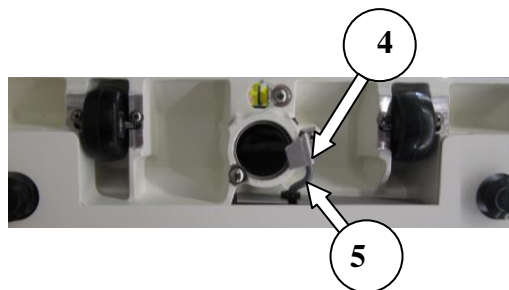

Figure 2: Cable Clamp and Display Cable Connector
STEP 6: (Figure 2) Lay the system on its side and remove the Cable Clamp (4) from the Base Assembly. Attach the Display Cable Connector (5) to its mate from the Base Assembly.
STEP 7: (Figure 2) **IMPORTANT:** Reinstall the Cable Clamp! Slide the cable back up into the Mast. Set the display cable into the groove under the Cable Clamp and reinstall the Cable Clamp, leaving just enough slack to alleviate any tension on the Cable exiting the Platform. Securely tighten the Cable Clamp screw. Excess cable **MUST NOT** contact the floor.